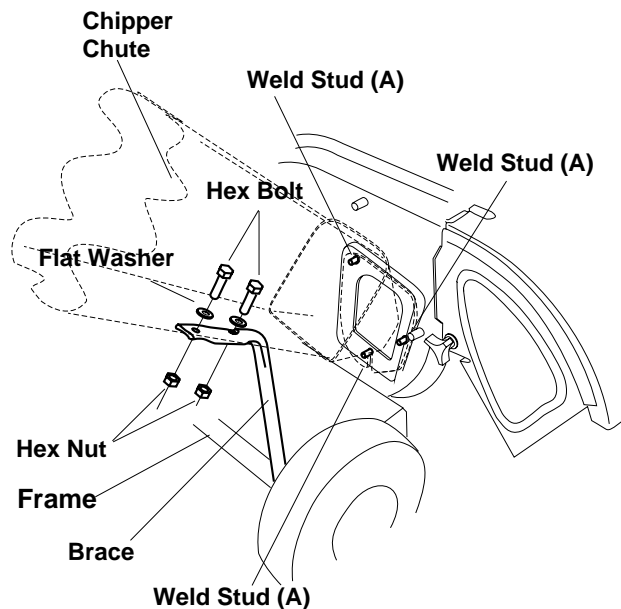

Figure 4
1. Remove the three cupped washers and hex nuts from the weld studs beside (A) the opening on the left side of the housing. **See Figure 4**